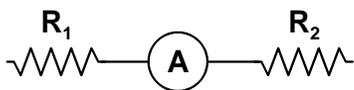

Figure 1: Series connection.
The International System of Units (SI) unit of charge is the Coulomb. The SI unit of current is the Ampere; it is equal to a rate of flow of one Coulomb per second. The ammeter is always connected in series with the conductor in which the current is to be measured (see Fig. 1).